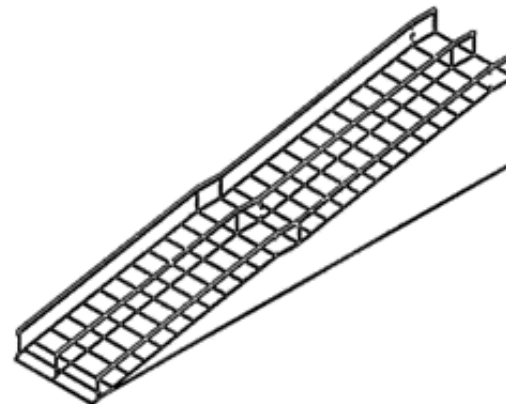

Fig. 5
- For ramps more than 3.00 m wide, an intermediate handrail could be installed (fig. 5).
- The distance between handrails when both sides are used for gripping should be between 0.90 m and 1.40 m (fig. 5).